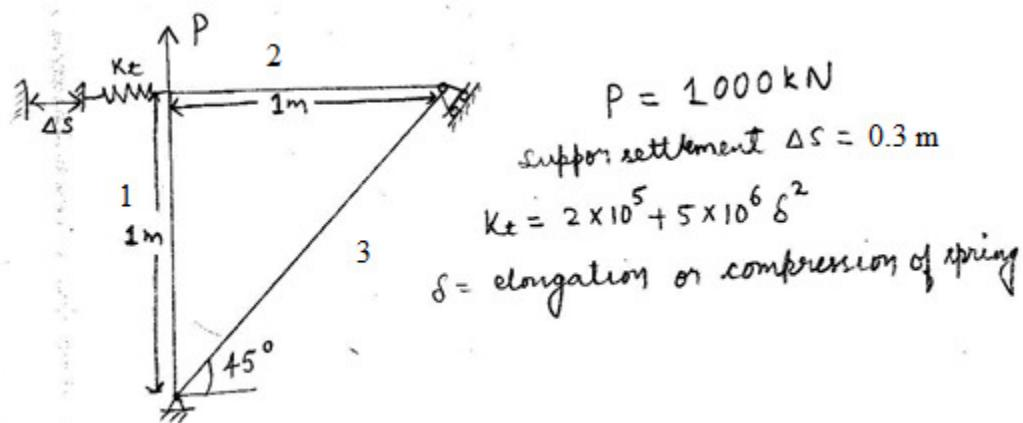

Figure 7
7. For the plane truss shown in Figure 7, determine the nodal displacements and support reactions, using finite element analysis. Let $E = 210 \text{ GPa}$, $A = 6.0 \times 10^{-4} \text{ m}^2$ for members 1 and 2, and $A = 6\sqrt{2} \times 10^{-4} \text{ m}^2$ for member 3.